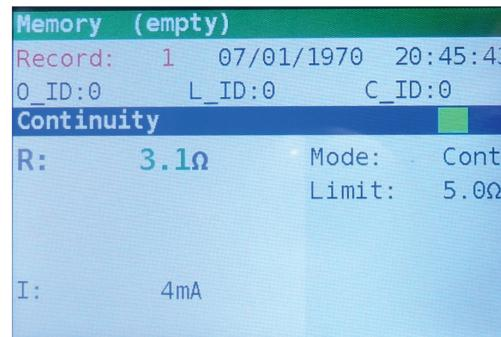

Figure 7.2: Save results
**Step 2** Press the **MEM** key. The following is displayed (Figure 7.2):
When a measurement was made, a screen as in figure 7.2 is shown. Press then the **UP** or **DOWN** key to enter the record list.